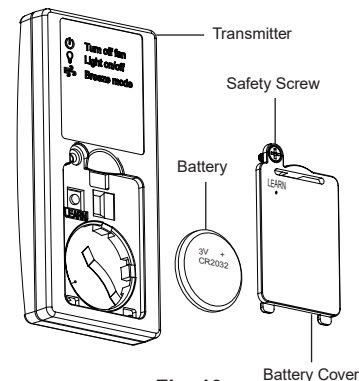

Fig. 19
Step 1. To remove or replace the CR2032 3V button/coin cell battery, loosen the safety screw and remove the battery cover from the back of the transmitter to access the battery compartment. (Fig. 19)